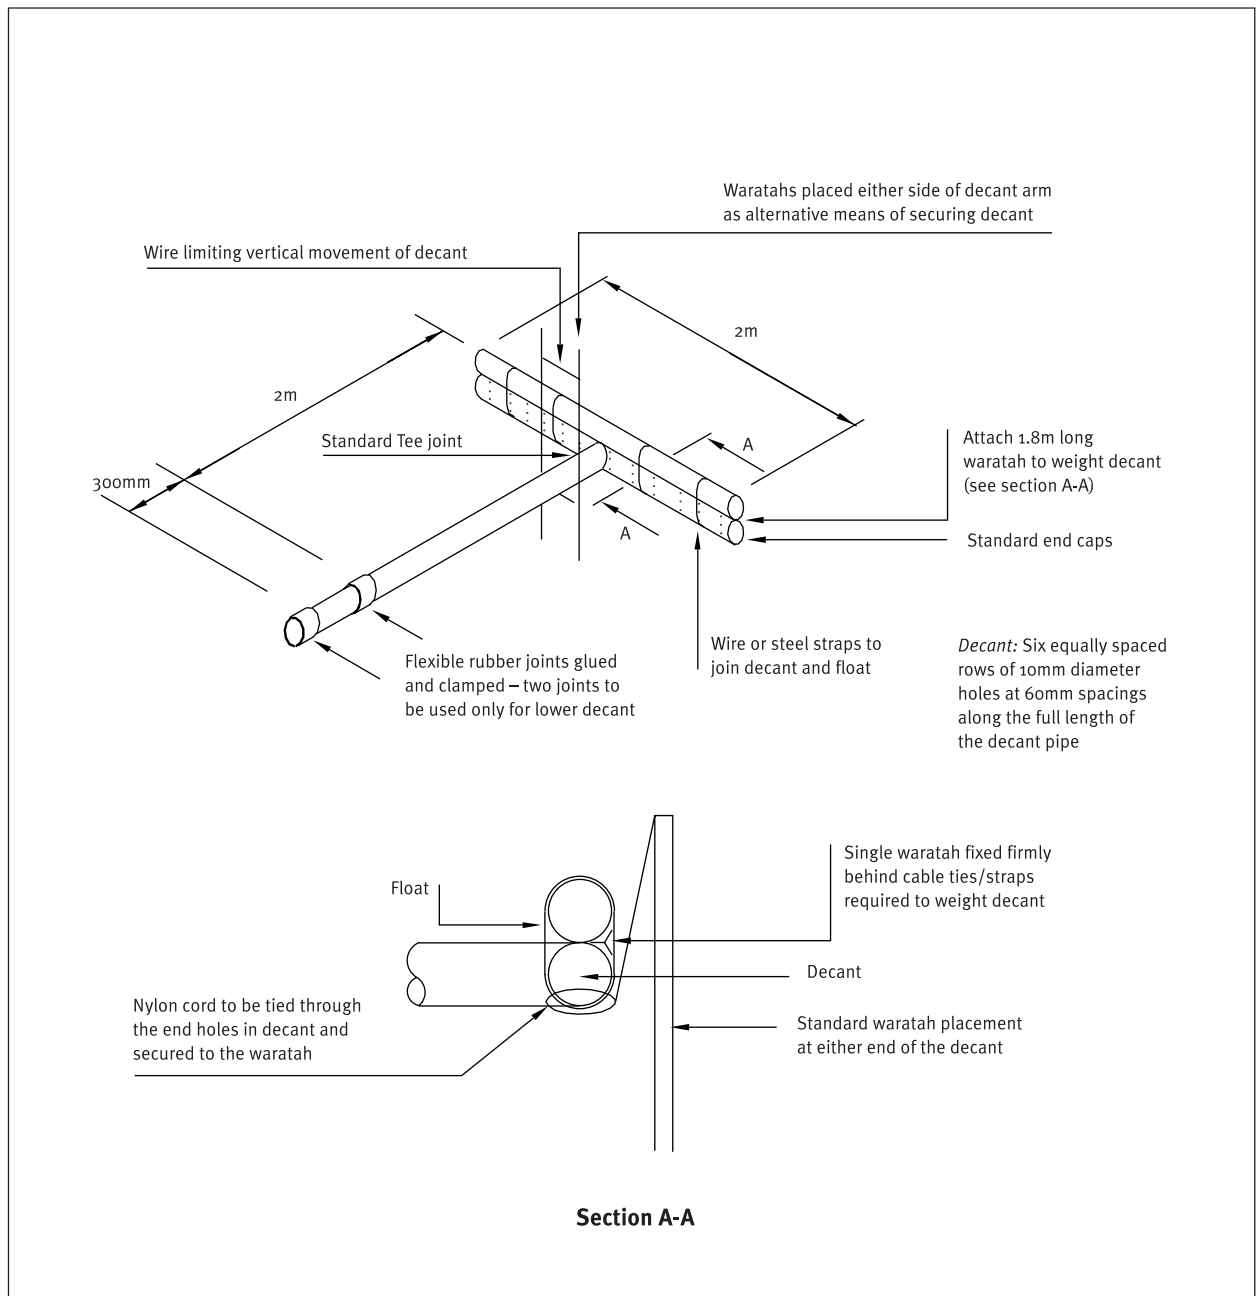

Figure 2.1.5 Sediment Retention Pond – Decant Detail
- A standard T-bar design is detailed in Figure 2.1.5 for various sized catchments. For simplicity, give preference to producing a standard T-bar decant that provides a decant rate of 4.5 litres/second per decant which can be added in discrete increments to accommodate various sized catchments.